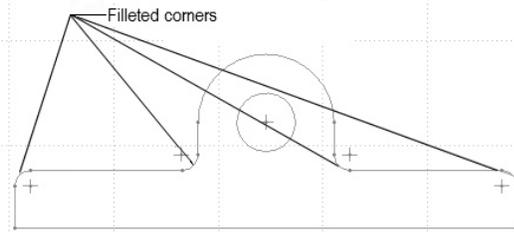

*Figure 2-42 Tangents created*
- b. Draw the sketch using sketcher tools, refer to Figure 2-42.
15. Similarly, create the other tangent line, refer to Figure 2-42.